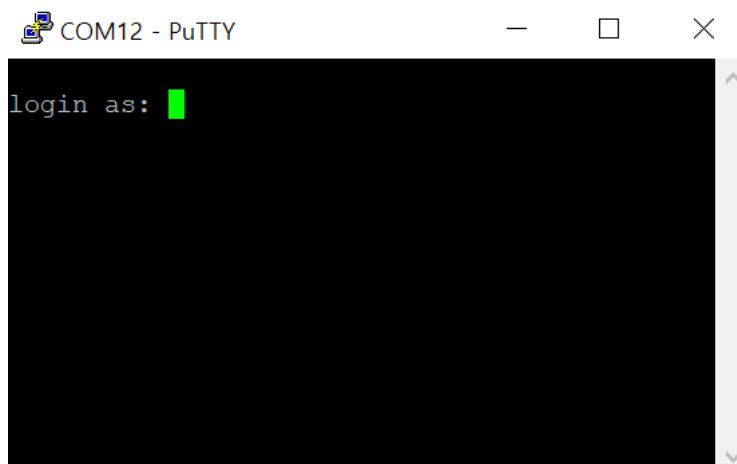

Figure 3.4 BB Shell login prompt
8. At the BB Shell login prompt shown in Figure 3.4, log in with the Default password.